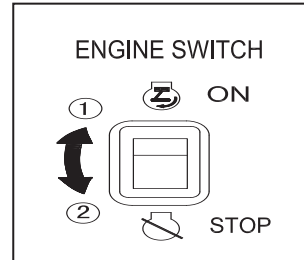

Fig. 4-2
2) ENGINE SWITCH (See Fig. 4-2)